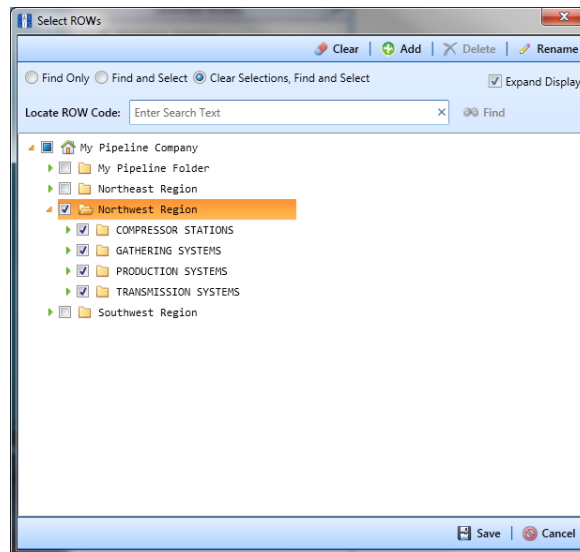

Figure 7-6. Select ROWs
- 1 Click the **Select ROWs** button  to open the *Select ROWs* window (Figure 7-6). Select one or more pipeline segments with facilities you want to include in the route. Click  **Save** to close the window.
- a Select one or more pipeline segments in the *Select ROWs* window (Figure 7-6, page 291). Click **Save** to close the window.
- 1 Select one or more pipeline segments in the *Select ROWs* window (Figure 7-6, page 291). Select pipeline segments with facilities you plan to include in the route. Click  **Save** to close the window.
- 1 Select one or more pipeline segments in the *Select ROWs* window (Figure 7-6, page 291). Select pipeline segments with facilities you plan to include in a route for an averaged reading survey. Click  **Save** to close the window.